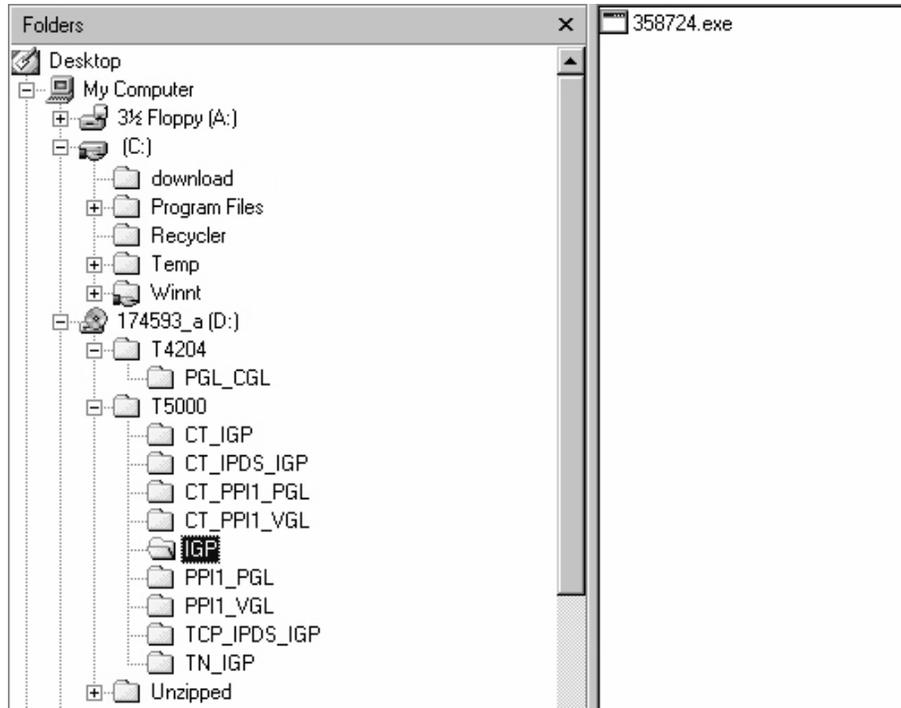

Figure 1. Navigating to the Appropriate Emulation File on the CD
17. Using Windows Explorer, navigate to the appropriate file on the CD based on the printer model number and desired emulation, e.g., T5000 ▶ IGP. (See Figure 1.)